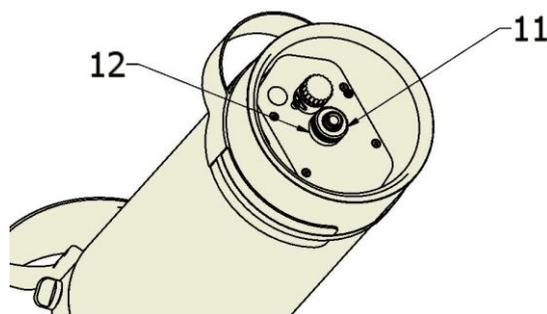
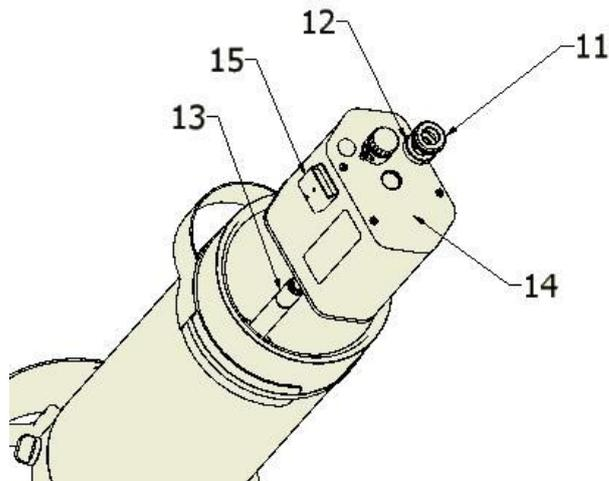
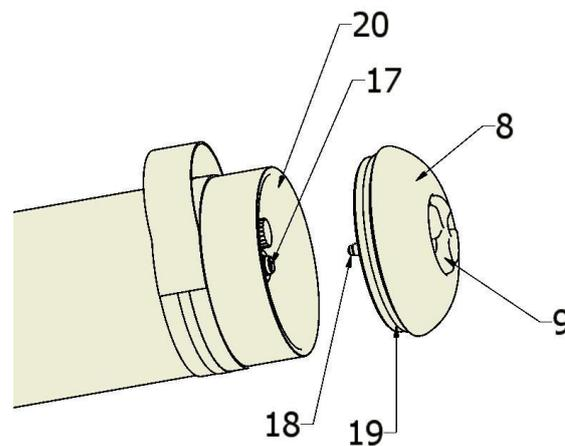

Figure 2
Figure 3
Figure 6
After removing the shell, stand the ADV vertically, detach the red connector (15) (do not pull the wires), unscrew the ring nut (11), remove the red ring (12) (see fig. 2) and extract the battery (14) pulling it upwards off the rod (13). (see fig. 3)
Proceed as follows to insert the ballast (23): (see fig. 6)
IMPORTANT NOTE: Figure 6 illustrates the ADV in salt water settings, meaning the red ring (12) fig. 2 is positioned above the battery and the ballast (23) is positioned under the battery; when using the ADV in fresh water, the ballast (23) should be removed from the ADV and the red ring (12) is positioned under the battery in the place of the salt water ballast (23).
As for trim, you can change factory settings by moving the battery along the pin (13) fig.6. Remove the battery, loosen the nut (21) with a 4 mm Allen key, unscrew or screw in the ring nut (22); screwing it in, the ADV tends to position itself with the rear sinking, unscrewing it causes the opposite. Screw in the nut (21) without perforating, replace the battery and try the ADV in the water until the desired settings are reached.